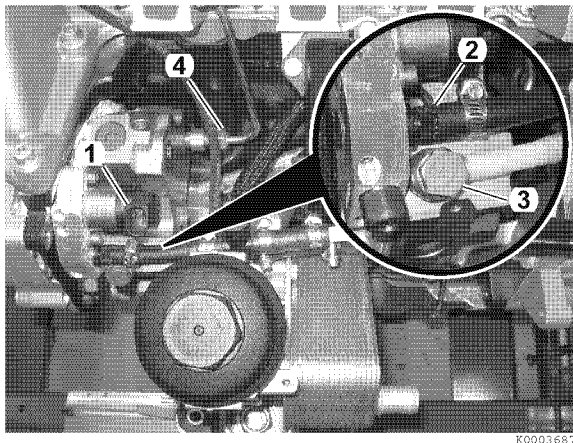

Figure 6-22
5. Disconnect electrical connector (1, **Figure 6-22**) from fuel volume regulator.
6. Disconnect fuel supply line (2, **Figure 6-22**).
7. Remove banjo bolt (3, **Figure 6-22**) and disconnect fuel return line.
8. Remove high-pressure line (4, **Figure 6-22**) between pump and fuel rail using special tool OEM No. 13 5 020.